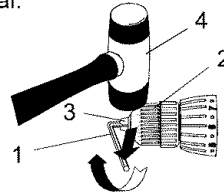

Fig. 10
2. Insert a 5/16" or larger hex key (1) into the chuck (2) and tighten the chuck jaws securely. Make sure each of the three chuck jaws (3) is seated on the flat surfaces of the hex key (see Fig. 10).
3. Tap the hex key sharply with a mallet (4) in a clockwise direction. This action will loosen the screw in the chuck for easy removal.
2. Tap hex key sharply with a mallet in a CLOCKWISE direction (see Fig. 10 on Page 15). This will tighten the chuck on the spindle.